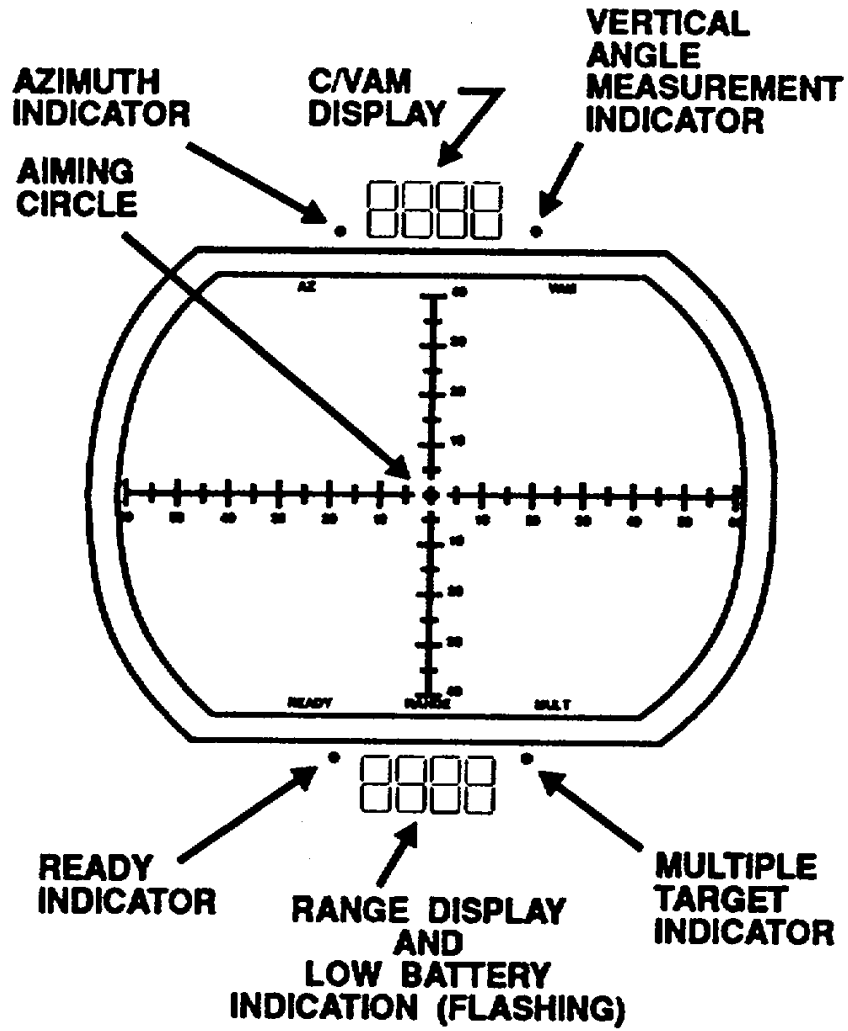

Figure 2-7. Eyepiece Display
f. Eyepiece Display (Figure 2-7).